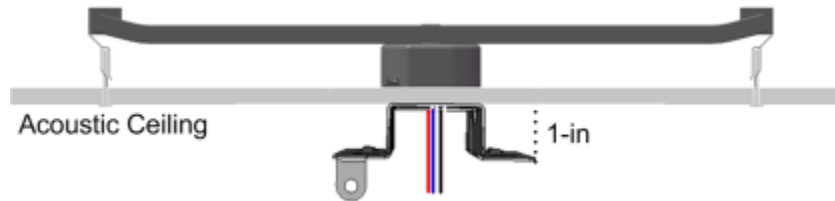

Figure 6-9: Below Ceiling Installation
1. Referring to Figure 6-9, install the T-Bar on the ceiling above the acoustic tiles (according to manufacturers' instructions).